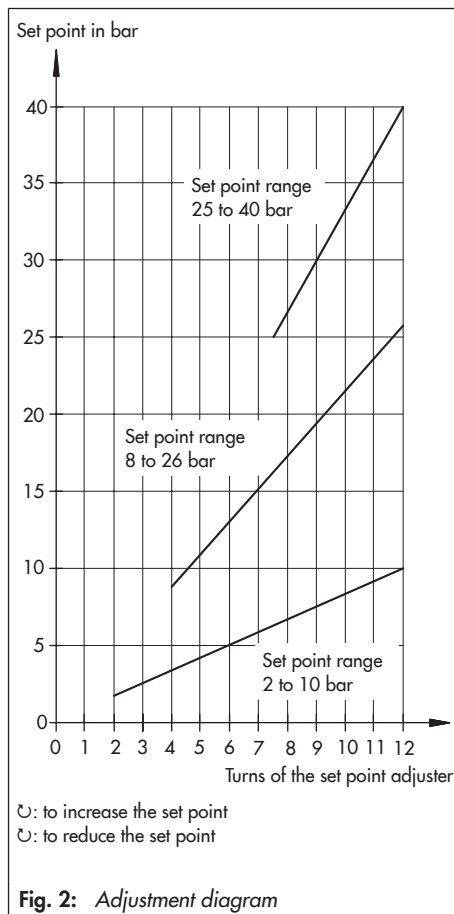

Fig. 2: Adjustment diagram
When a pressure gauge is not installed, adjust the set point using the adjustment diagram (Fig. 2).
2. Determine the difference between the fixed set point (Table 1) and the required set point. Turn the set point adjuster (10) the required amount of turns as specified in Fig. 2.